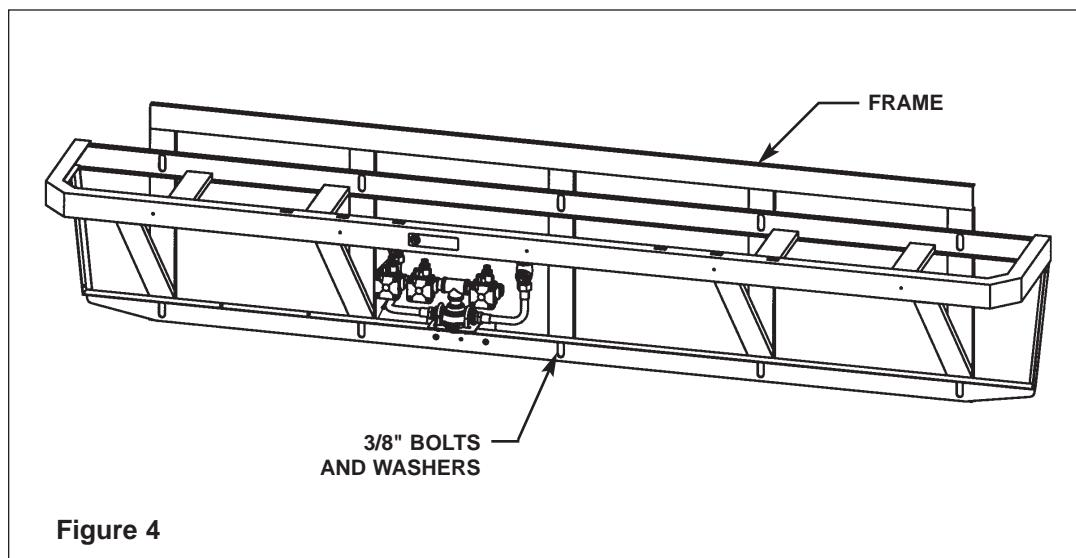

Figure 4
4. Once you have positioned the frame such that it is level and flat against the wall or shimmed, use the 3/8" bolts and washers to mount the frame to the wall (see Figure 4).